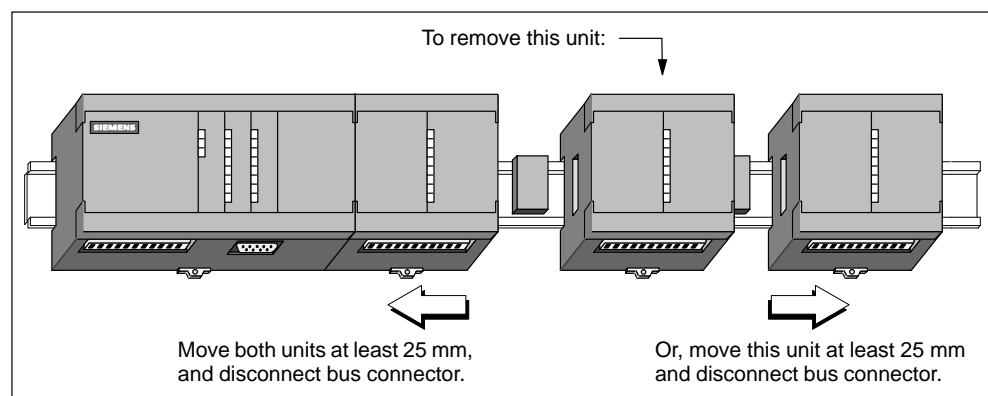

Figure 2-10 Removing the Expansion Module
1. Disconnect all the wiring and cabling that is attached to the module that you are removing. If this module is in the middle of a chain, the modules to the left or right must be moved at least 25 mm (1 in.) to allow the bus connector to be disconnected. See Figure 2-10.